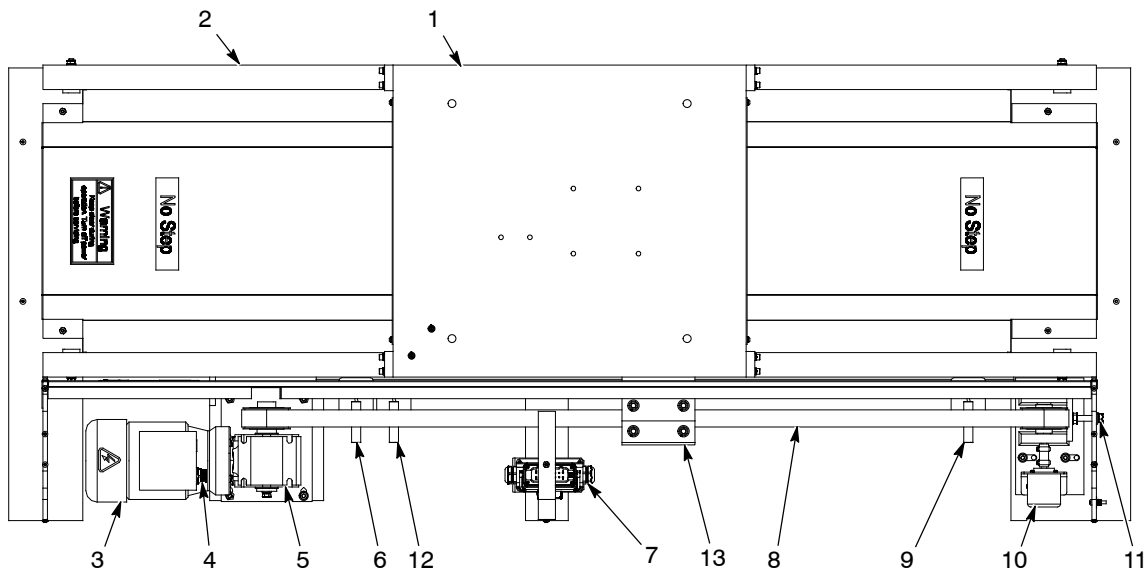

Figure 2 Positioner Components
See Figure 2. A vertical oscillator, reciprocator, or fixed gun stand is bolted directly to the carriage (1). The carriage is attached to the belt (8). The motor (3) and gear reducer (5) drive the belt, which moves the spray guns in or out of the booth. The belt is wrapped around the pulleys at each end of the positioner.
Mount the sensor to the right of the reverse sensor (Fig. 2, item 12) and route the cable through the sensor mounting channel to the sensor/encoder connector (Fig. 2, item 7). The gap between the sensor and the sensor target (Fig. 2, item 13) should be approximately 3 mm.